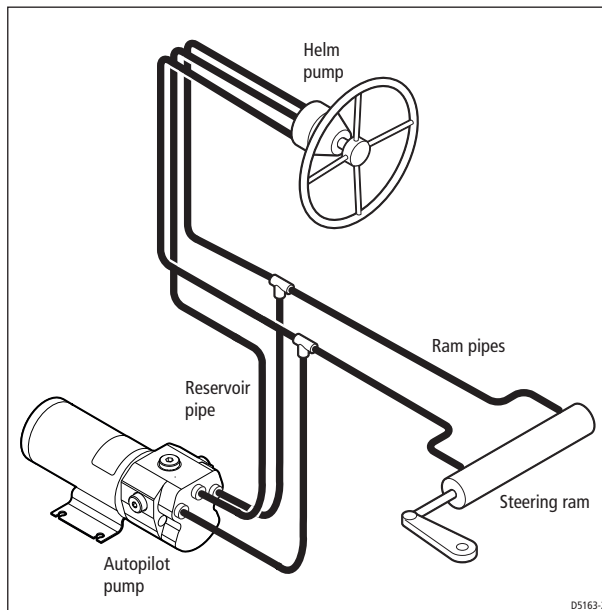

Figure 6
*Figure 6* shows a typical two line steering system. Hydraulic fluid flows into the ram in either direction, depending on the direction the helm pump rotates. Connect the autopilot pump to the steering system as shown in *Figure 6*.